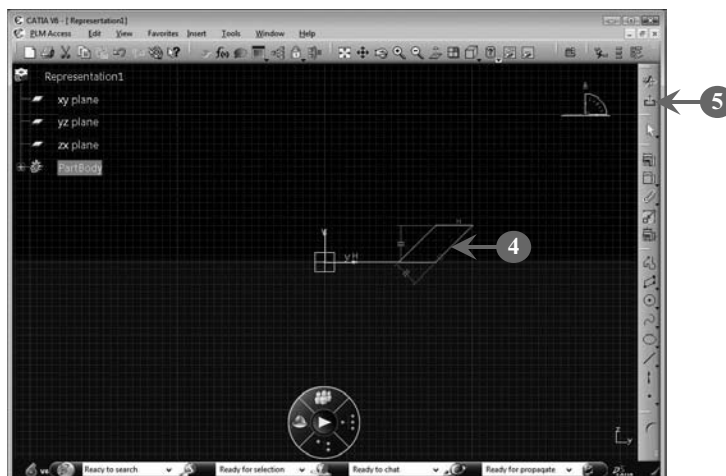

FIGURE 3.34
4. *Draw* a profile in the Sketcher workbench on which the rib feature is added. In our case, a parallelogram is sketched on the spline (**Figure 3.34**).
5. *Select* the **Exit workbench** button (🏠) from the Sketcher workbench, as shown in Figure 3.34: